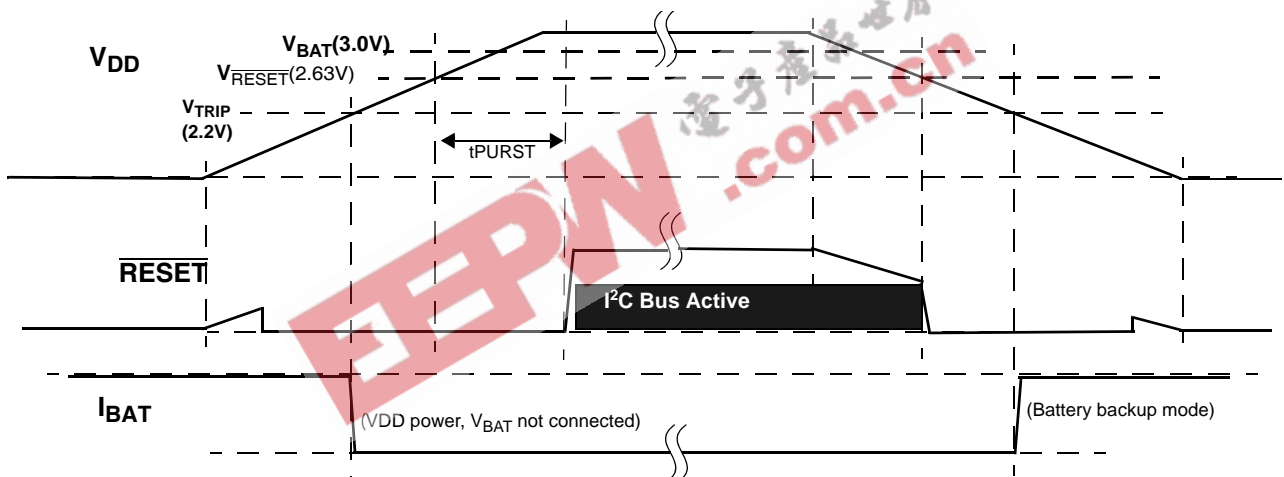

FIGURE 29. EXAMPLE RESET OPERATION IN MODE A OR C
- Mode A - In this mode selection bits indicate a low  $V_{\text{DD}}$  switchover combined with I2C operation in battery backup mode. In actuality the  $V_{\text{DD}}$  will go below  $V_{\text{RESET}}$  before switching to battery backup, which will disable I2C ANYTIME the device goes into battery backup mode. Regardless of the battery voltage, the I2C will work down to the  $V_{\text{RESET}}$  voltage (See Figure 29).
- Mode C - In this mode the selection bits indicate a low  $V_{\text{DD}}$  switchover combined with no communications in battery backup. Operation is actually identical to Mode A with I2C communications down to  $V_{\text{DD}} = V_{\text{RESET}}$ , then no communications (see Figure 29).